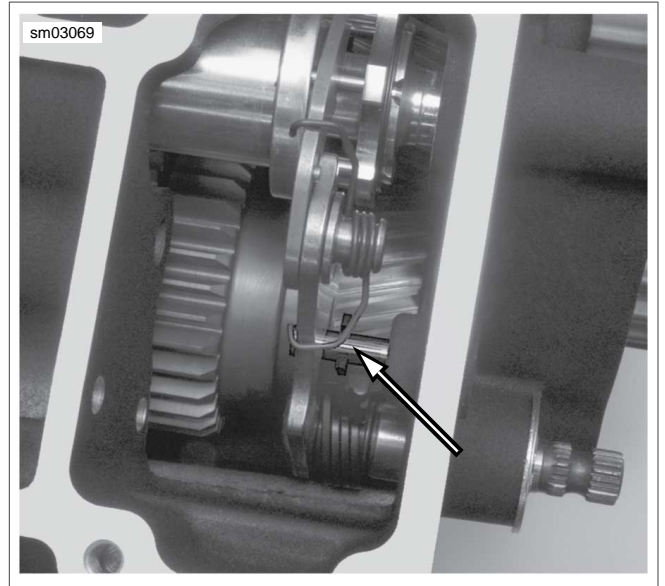

Figure 6-55. Shifter Shaft Lever Spring
5. See Figure 6-55. Verify that pin sits inside shifter shaft lever spring.